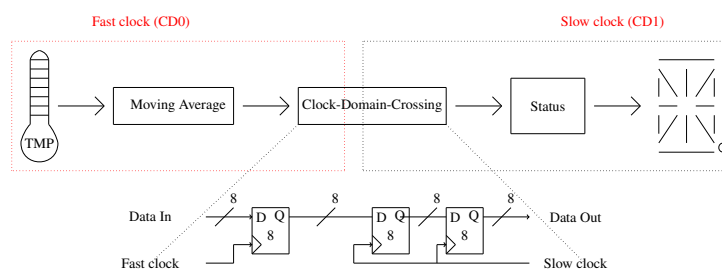

Figure 2: Process pipeline with clock domain crossing
- (h) Implement the new module shown in Figure 2.